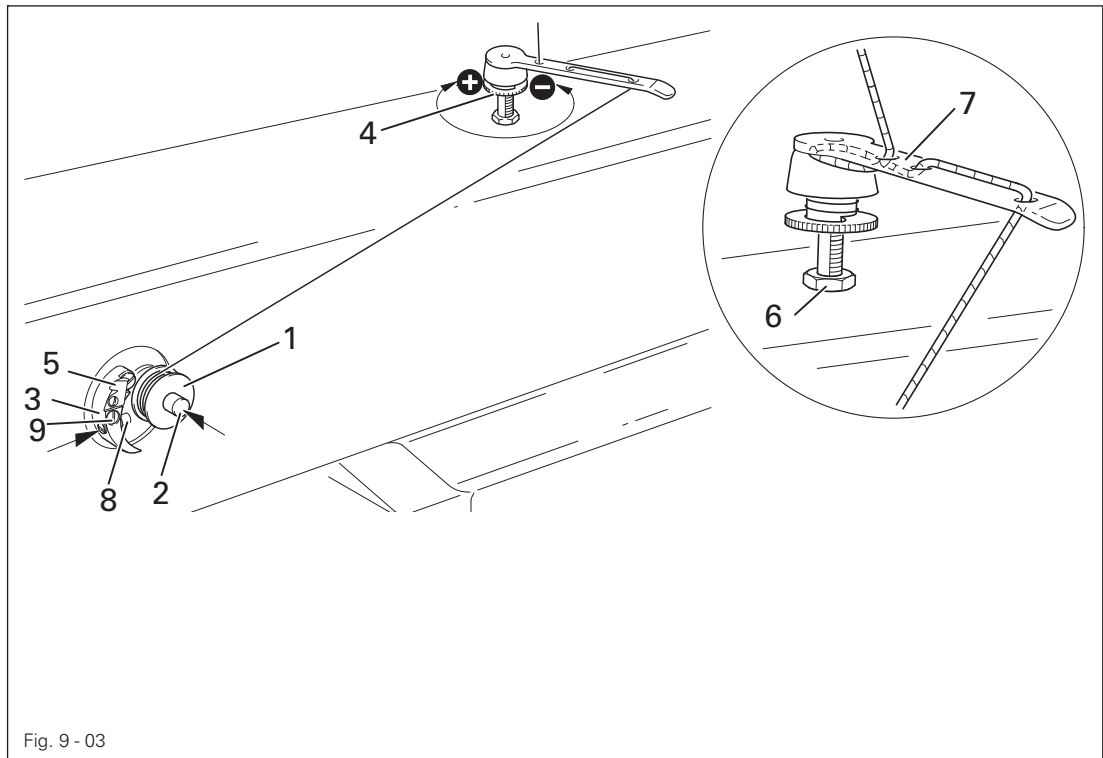

Fig. 9 - 03
- Thread in the thread as shown in Fig. 9 - 03 and wind it round the bobbin 1 a few times in an anti-clockwise direction.